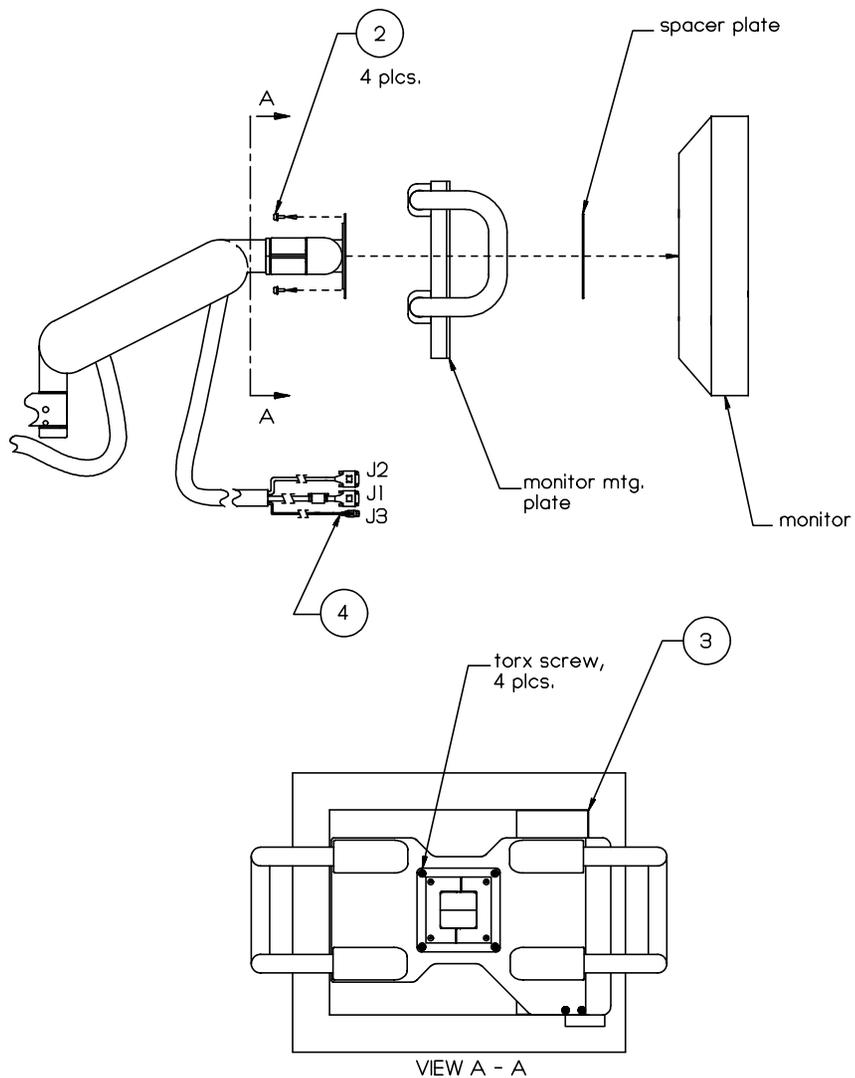

Figure 2
2. Remove the 4 torx screws (with their washers) that attach the Monitor and Monitor Mtg. Plate to the Monitor Pivot Mount, then detach the Monitor, Spacer Plate, and Monitor Mounting Plate. See Figure 2 (next page).
3. From the rear of the monitor, remove the rectangular cover which is attached over the area of the 3 Arm Cable connections. See Figure 2 (next page).
4. Disconnect the 3 Arm Cable connectors (J1, J2 & J3) from the rear of the monitor. See Figure 2 (next page).